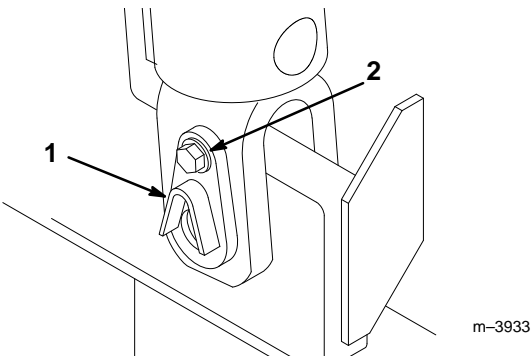

Figure 1
- 3. Remove the existing pivot pin from the bottom of a loader arm hydraulic cylinder (Fig. 1). Retain the bolt for later use.